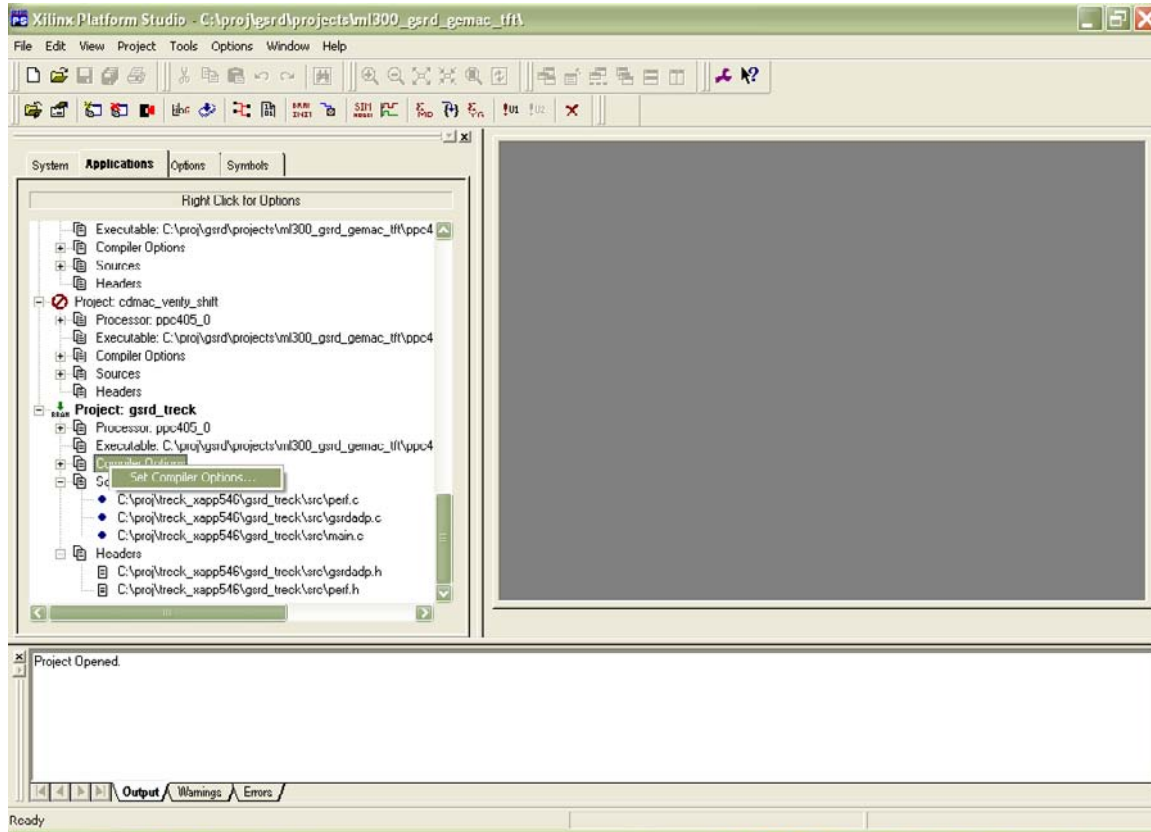

Figure 7: Set Compiler Options
12. Set the compiler options for the project Right click on Compiler Options for the gsr\_d\_treck project and choose "Set compiler options" (Figure 7).